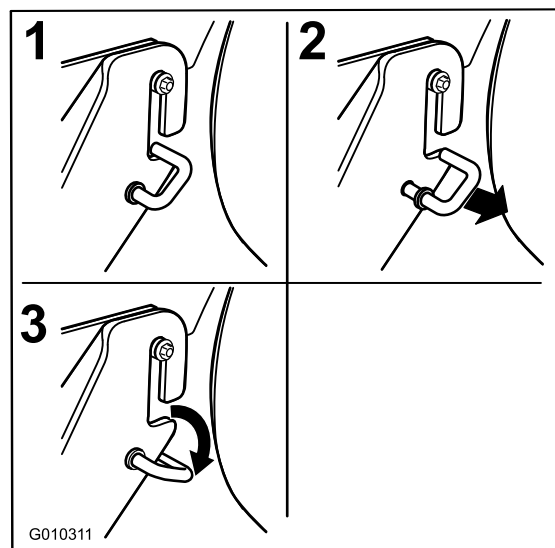

Figure 67
1. Move the spring loaded J-hooks out of the slot in the rear hanger brackets on both sides of the deck (Figure 67).